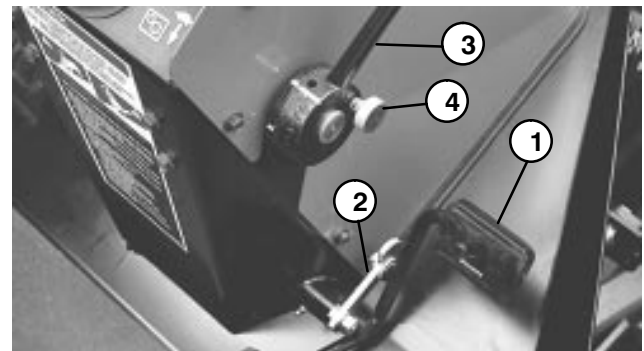

Figure 13
Traction Pedal (Fig. 13) – Controls forward and reverse operation. Depress top of pedal to move forward and bottom to move backward. Ground speed depends on how far pedal is depressed. For no load, maximum ground speed, fully depress pedal while throttle is in FAST. For maximum power under load or when going uphill, keep engine rpm high by having throttle in FAST and traction pedal partially engaged. If engine rpm begins to decrease due to load, gradually reduce traction pedal pressure until engine speed is increased.
Speed Selector (Fig.13) - Cam lever at side of traction pedal can be rotated to maintain desired speed. Rotating lever forward decreases speed and backward increases speed.
Axle Shift Lever (Fig.13) – Located on right side of console, lever selects front drive mode. Pull out lockout knob, move lever rearward for mowing operation and forward for transport operation, then release knob to lock selection. Lever must be in LO position to mow. Middle position (N) is for towing.